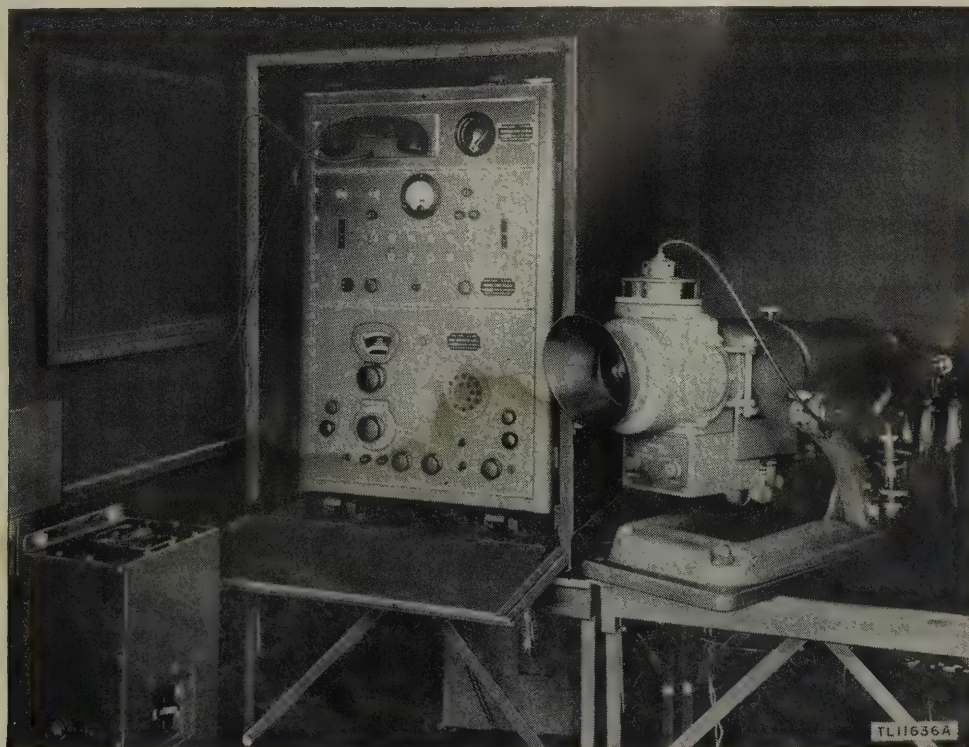

Figure 2. Radio Set SCR-291-A, receiver, control panels, and indicator.
a. APPLICATION. Radio Set SCR-291-A (Direction Finding) is a semiportable, visual-indicator type of ground station radio direction finder (fig. 1). Azimuth bearings can be taken on any type of radio transmission within the r-f (radio-frequency) ranges of the radio set. For direction finding the normal frequency range is from 2 to 10 mc (megacycles), but the range can be extended to 20 mc. Simultaneous bearing indications and audio monitoring signals are available over the D/F (direction finding) range; any transmission within the 1.5- to 30-mc range of the receiver can be monitored. The bearing indicator, radio receiver, control panel, and telephone panel are installed in a prefabricated shelter (fig. 2). Bearing indications are continuously and automatically traced